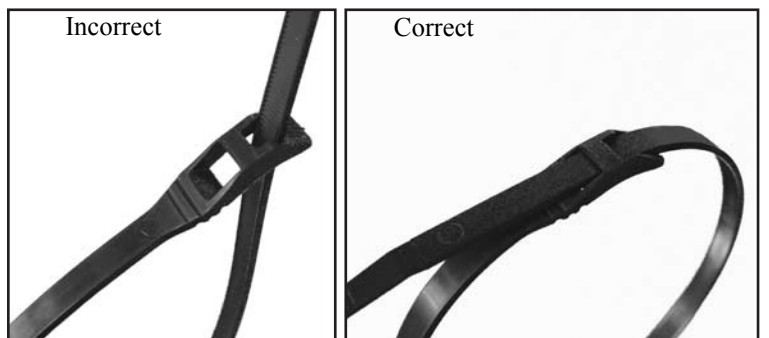

Figure 13
Step 1. Attach the 36" comfort pad to the Back Rest Support as shown in **Figure 13**. The cable ties for attaching the pads are "in-line" cable ties: Note the correct and incorrect ways of attaching. To attach - pull the cable ties snug, cut off the excess, and rotate the clasp to the underside of the pad.